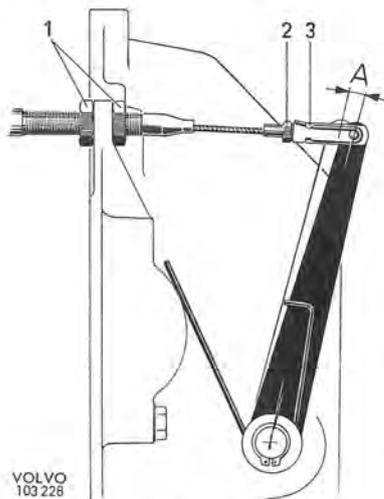

Fig. 4-3. Release lever play
Correct clutch pedal play is obtained by adjusting the release lever so that on left-hand steered vehicles a play of 4–5 mm (0.16–0.20"), A in Fig. 4-3, is obtained. Play is adjusted by unscrewing or screwing in the fork (3) on the clutch wire. If this adjustment is insufficient,